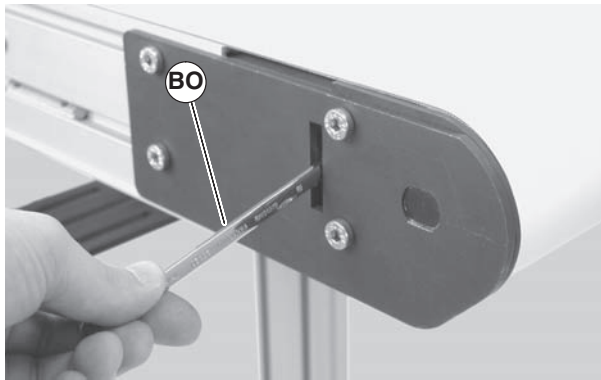

**Figure 38**
1. On the side of conveyor which the belt is tracking towards, loosen the head plate fastening screws (Figure 38, item BN).
3. Re-tighten the head plate fastening screws (Figure 38, item BN) with a 5 mm hex-key wrench to 146 in-lb (16.5 Nm).